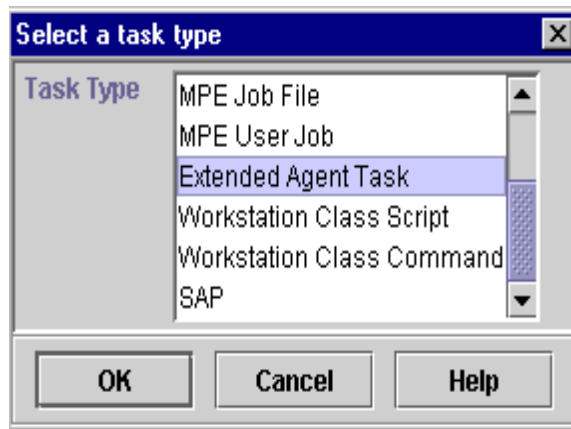

Figure 209. Task type selection
2. Select **Extended Agent Task** for the task type as shown in Figure 209 on page 344.